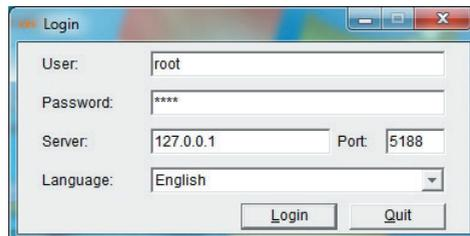

Figure 4-2: PLANET-EMS Icon and Login Window
3. Enter the user name and password. Please enter the default user name "**root**", password "**root**", server "**127.0.0.1**" and port "**5188**" as screen in Figure 4-2 appears.